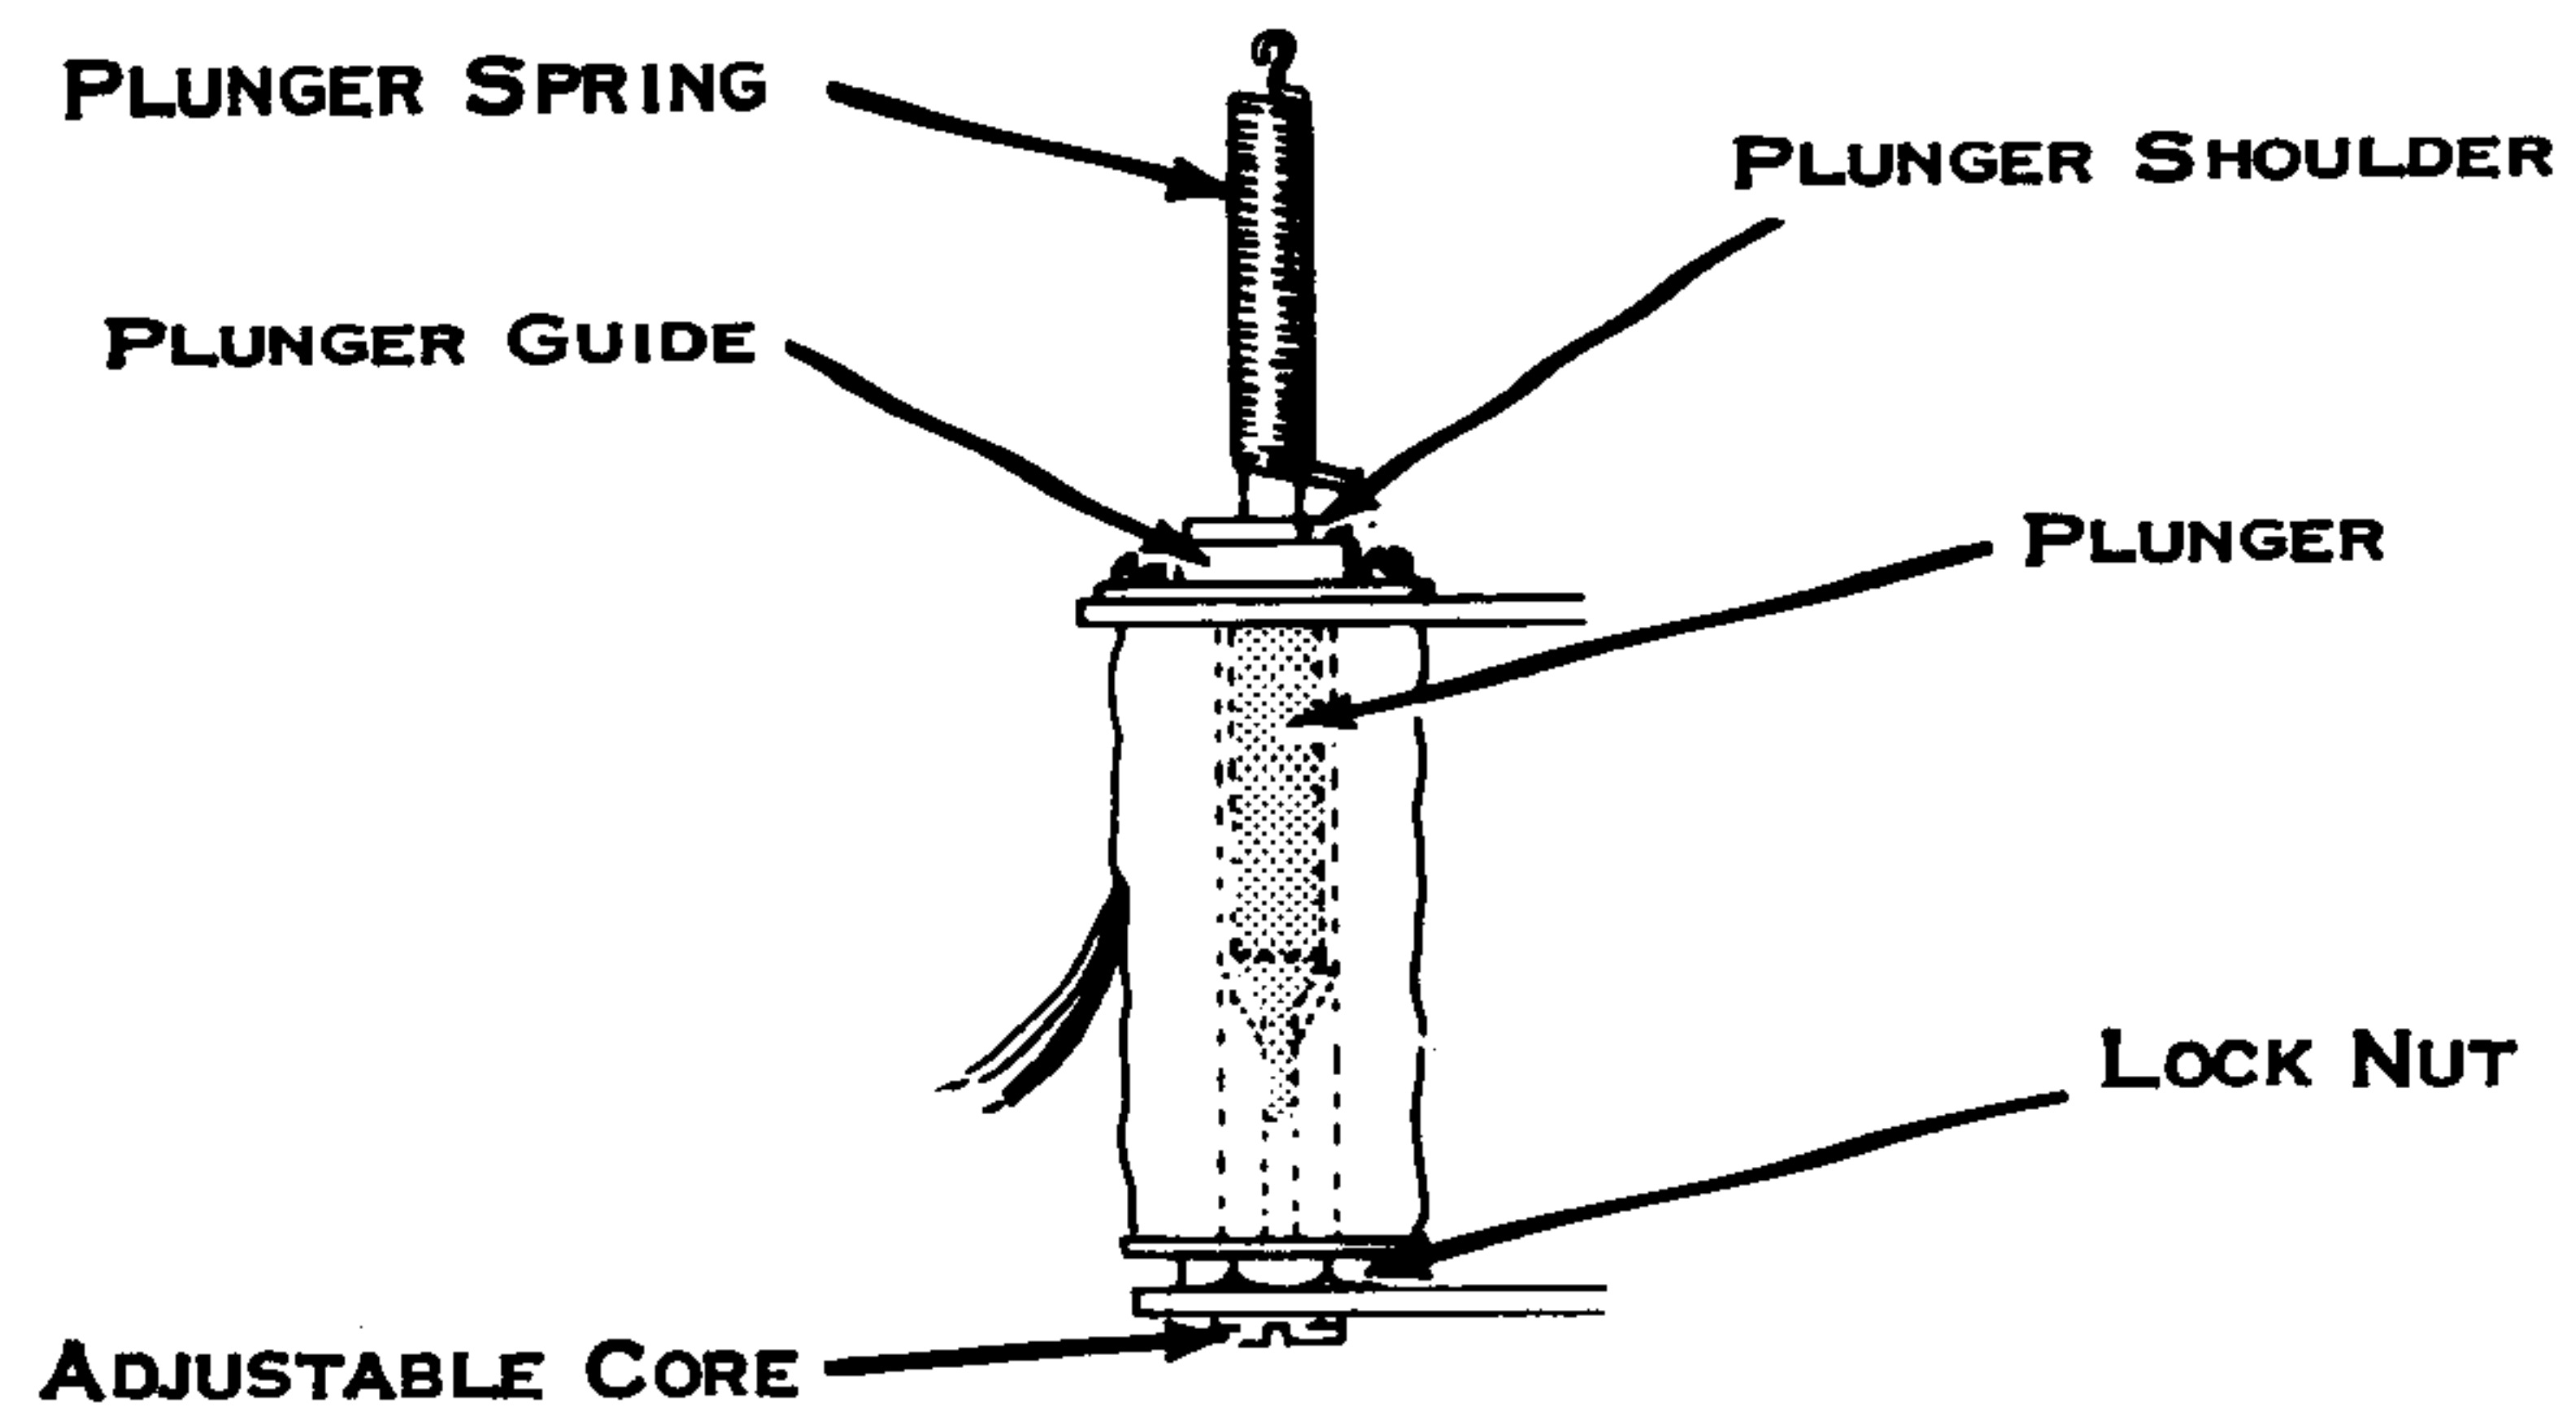

Figure 40. Solenoid
1. Solenoid (Fig. 40) - Adjust as follows:
plunger shoulder begins to lift off the plunger guide, then back off 1/2 turn (Fig. 40).